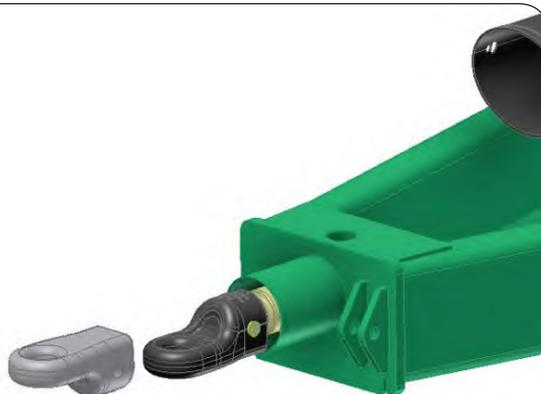

FIG. 4-2
3. Remove the 1/2" carriage bolts (9388-103), flange nuts (9394-010), and lock washers (9404-025) holding the flangette bearings. Keep hardware. (Fig. 4-2).
2. When installing the coupler into the auger pipe, use the lower flighting edge as a 12 o'clock position and place the drive coupler surface to contact the upper auger drive pin at a 5 o'clock position. Assemble hanger bearing assembly to the auger tube with original 5/8"-11UNC hardware. (FIG. 4-2 and 4-3)